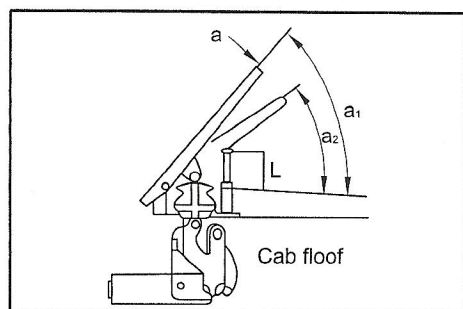

Fig. 05-15
- (1) Shut down the engine.
- (2) Touch the accelerator pedal with an angle-gauge (1), and measure the movement angle α ($\alpha = \alpha_1 - \alpha_2$) of the pedal from the positions (α_1) at its low idle speed to (α_2) at its high idle speed (Please see Fig. 05-15 and 05-16).
- (1) Unfasten the mounting nuts and adjustment bolts at the bottom of the pedal (on the cab floor) to have the height (L) of pedal limit-bar be at its normal working range (Please see Fig. 05-15).
- (2) Unfasten the bolts and adjust properly the length of cable (3), so that the adjustment lever of the oil-spray pump could touch with the pedal limit-bar when the pedal is stepped down to its high idle-speed position.